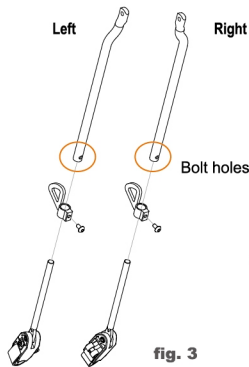
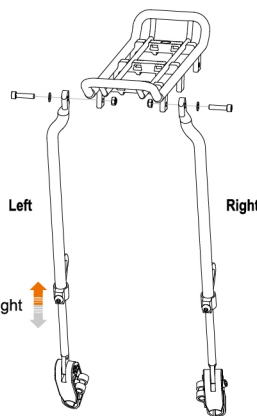

fig. 3
fig. 4
1. Mount hasp to carrier legs. Hasp must face upward (above the bottom of leg). Slide hasp over leg with short Allen bolt aligned with screw hole on leg—do not tighten yet. Insert leg clamp in mounting leg. Using 3 mm Allen key, tighten bolt, but not too firmly as further adjustment will be necessary (see fig. 3).
2. Legs are specific to left and right, though are not marked. Note angle at top of leg and bolt hole in bottom/rear (see fig. 3). Mount on outside of carrier bosses. The bolt holes at bottom of each leg must face rear of carrier. Using long Allen bolts, washers and nuts, loosely assemble legs to outside of carrier. Attach leg mounting clamps (marked 'L' (left) and 'R' (right)). Insert leg mounting clamps in legs. Tighten bolts, but not too firmly as further adjustment will be necessary. (See fig. 4).